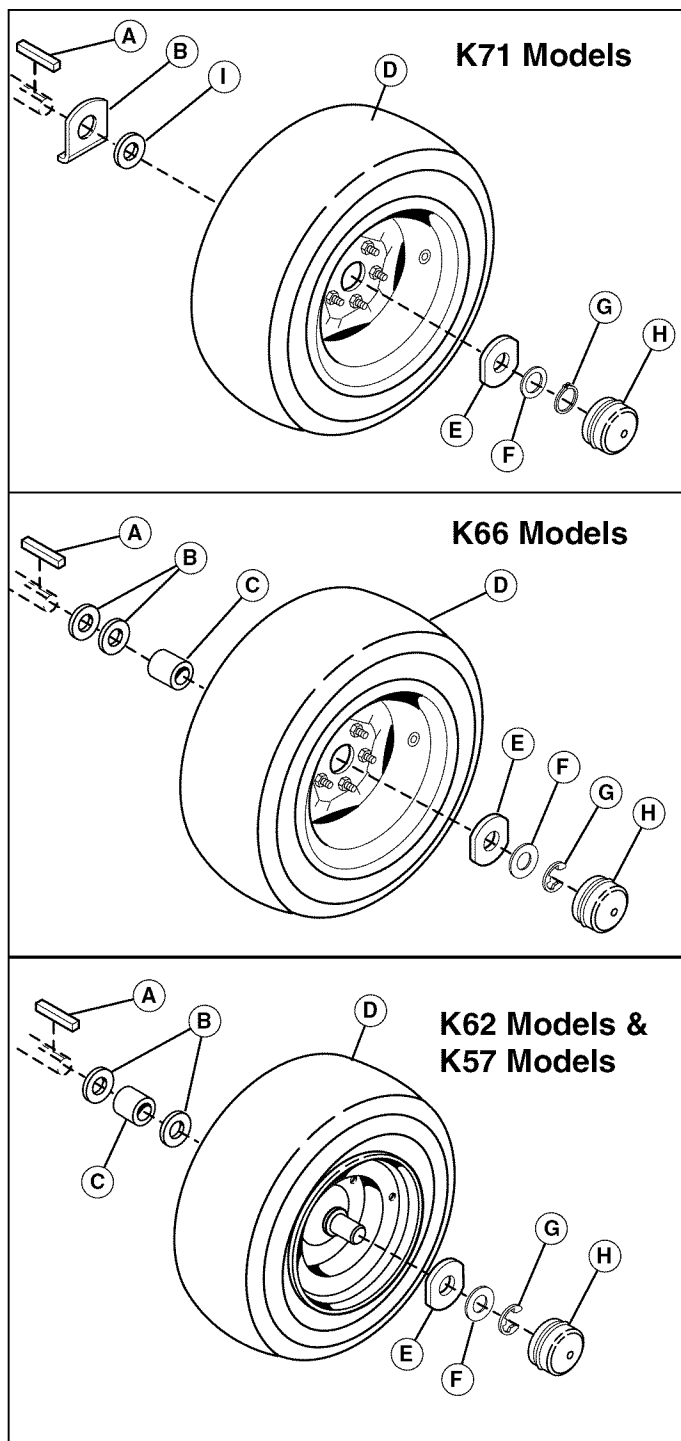

Figure 27. Rear Axle Hardware
5. Reinstall the components in reverse order of disassembly and lower the unit. Be sure the key (A, Figure 27) is in place in the axle keyway.